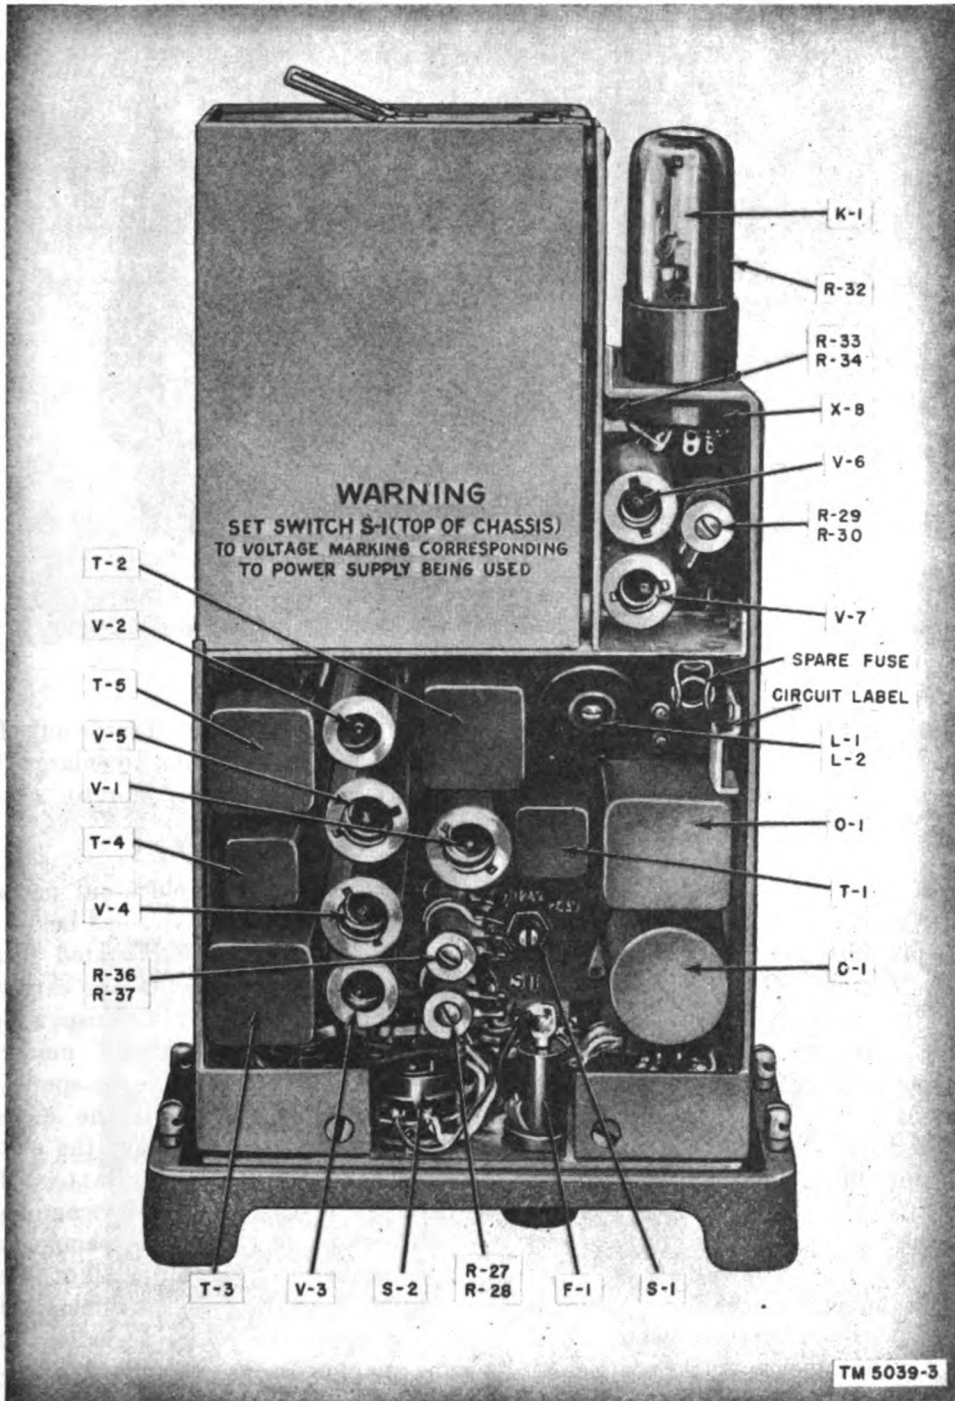
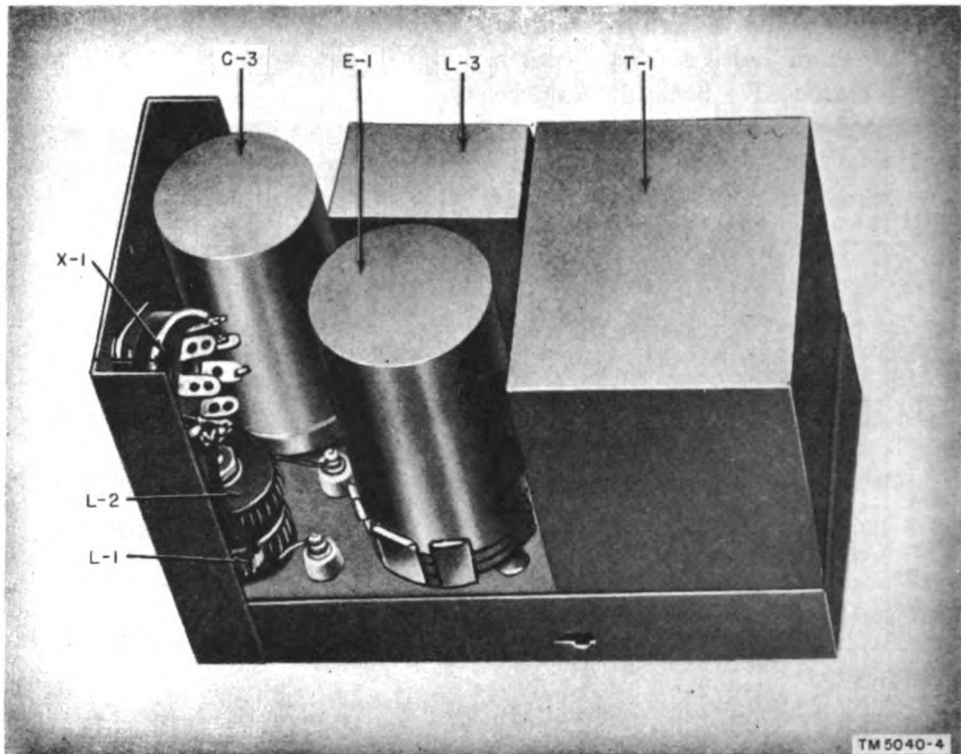

Figure 47. AF Amplifier AM-65/GRC, top view of chassis.
Figure 48. Power Supply PP-282/GRC, top view of chassis
listen for a voice signal in the headset. If a voice signal is heard, check all cables for proper connections and check the wiring in the mounting and interphone box for continuity (pars. 84 and 86.) If no signal is heard at the panel, check V-1, thermal relay K-1, and ballast resistor R-32 in the amplifier (par. 85 and fig. 47). Should these components fail to disclose the trouble, check vibrator E-1 in the amplifier power supply (par. 85 and fig. 48).
a. FUSE. The panel-mounted fuse may be removed by unscrewing the fuse cap which also serves as a fuse extractor. A spare fuse is located in a fuse clip on the amplifier chassis (fig. 47).
b. THERMAL RELAY AND BALLAST TUBE. Thermal relay K-1 and ballast tube R-32 are mounted in a horizontal position at the rear of the amplifier chassis (fig. 47). After removing the panel-chassis assembly from the case, remove the relay or ballast tube with a straight horizontal pull. Do not rock or jiggle the component in its socket; the socket prongs may be damaged.
(fig. 47). To remove any tube, first remove the tube shield and then use a tube puller. Do not rock or jiggle a tube in its socket; the tubes are easily damaged by careless handling.
d. **PLUG-IN POWER SUPPLY.** Although it can be replaced as a single unit, the plug-in power supply is not furnished as a running spare. However, a spare is provided for the vibrator within the power supply (fig. 48). Remove the amplifier case and replace the vibrator as follows:
- (1) Loosen the clamp at the rear of the power supply compartment and swing it out of the way.
- (2) Grasp the handle at the rear of the power supply unit and pull straight out.
- (3) Remove the three green screws which fasten the top cover on the power supply chassis.
- (4) Using the handle on the cover, lift the cover off with a straight upward movement. If the cover is stuck, use a small screw driver and gently pry the cover.
- (5) Pull the vibrator (fig. 48) out of its socket with a straight upward movement. Do not rock or jiggle the vibrator while attempting to remove it from its socket. If necessary, use a small screw driver to